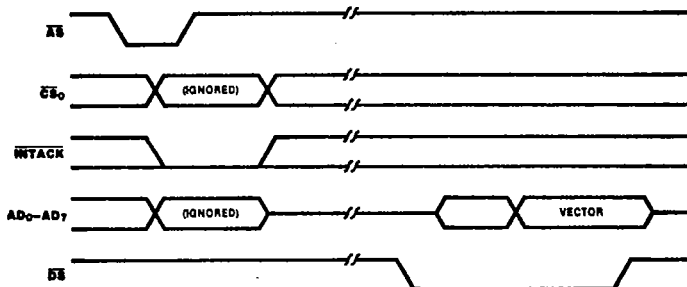

Figure 17. Interrupt Acknowledge Cycle Timing
**Interrupt Acknowledge Cycle Timing.** Figure 17 illustrates Interrupt Acknowledge cycle timing. The address on  $AD_0-AD_7$  and the state of  $\overline{CS}_0$  and  $\overline{INTACK}$  are latched by the rising edge of  $\overline{AS}$ . However, if  $\overline{INTACK}$  is Low, the address and  $\overline{CS}_0$  are ignored. The state of the R/W and  $\overline{CS}_1$  are also ignored for the duration of the Interrupt Acknowledge cycle. Between the rising edge of  $\overline{AS}$  and the falling